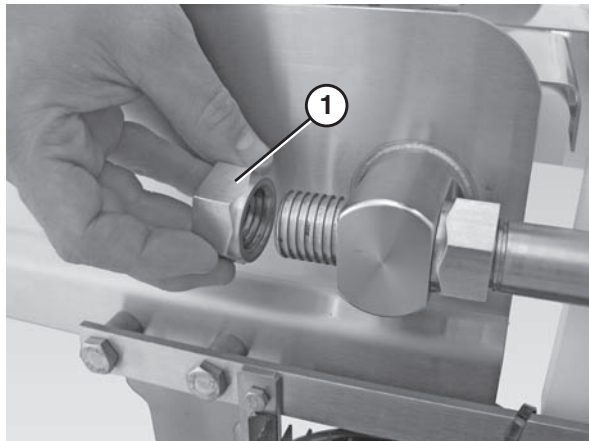

Figure 79
1. Remove the back nuts (**Figure 79, item 1**) on both discharge nose bar shafts.